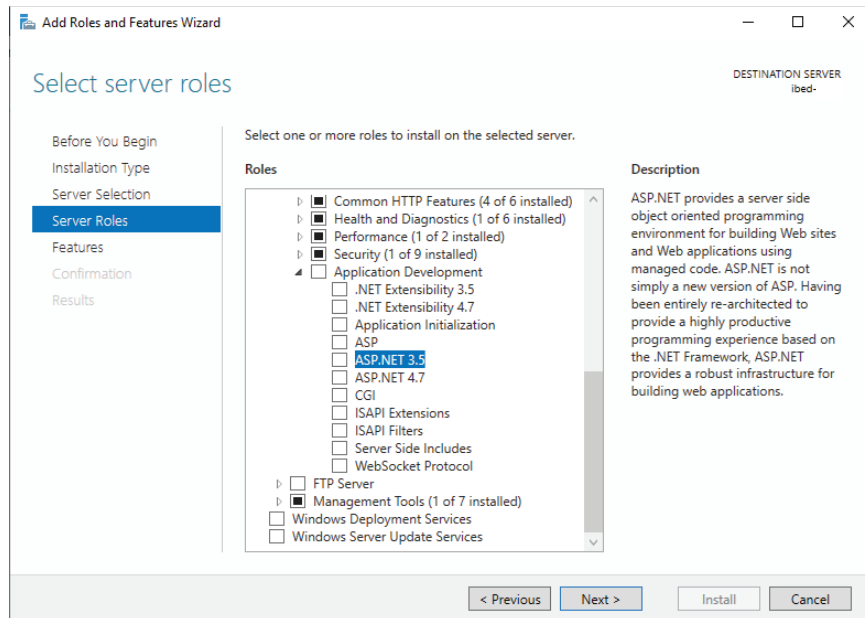

Figure 17 – Server Roles
18. In the **Select server roles** in the **Roles** box, expand the **Web Server (IIS)** heading, the **Web Server** heading, and the **Application Development** heading. Select **ASP.NET 3.5** and **ASP.NET 4.7**. Select **Next** (Figure 17).